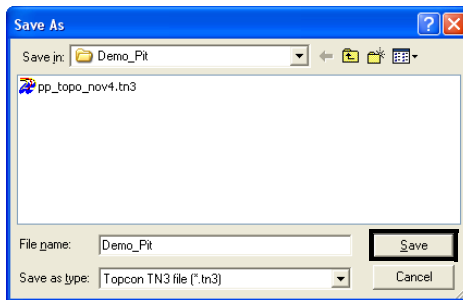

Figure 5-24. Save TIN Surface File
2. On the **Save As** dialog box, do one of the following (Figure 5-24):